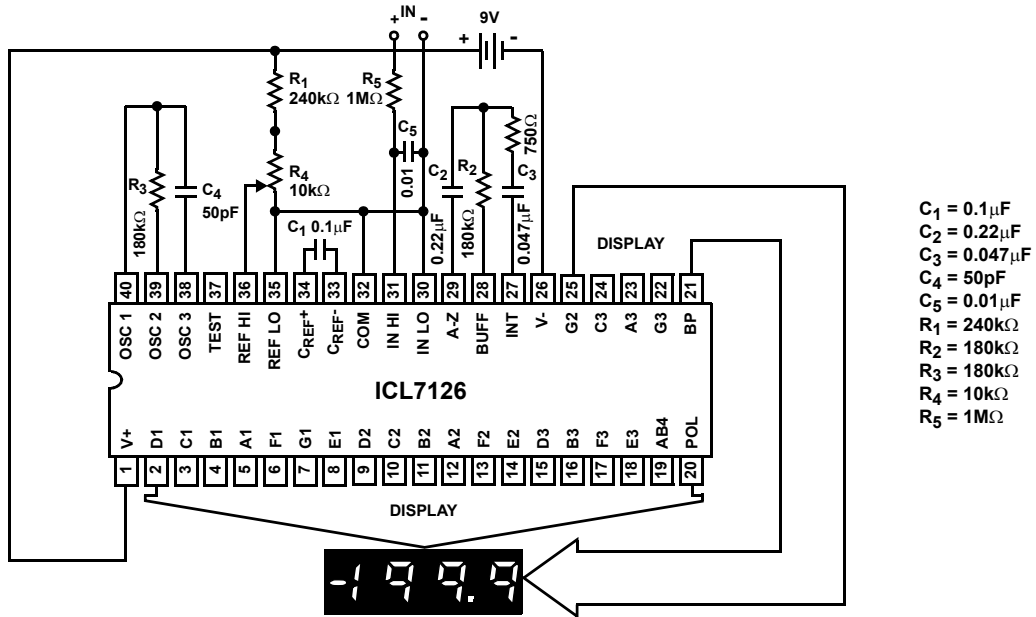

FIGURE 1. ICL7216 TEST CIRCUIT AND TYPICAL APPLICATION WITH LCD DISPLAY COMPONENTS SELECTED FOR 200mV FULL SCALE
- Unless otherwise noted, specifications are tested using the circuit of Figure 1.